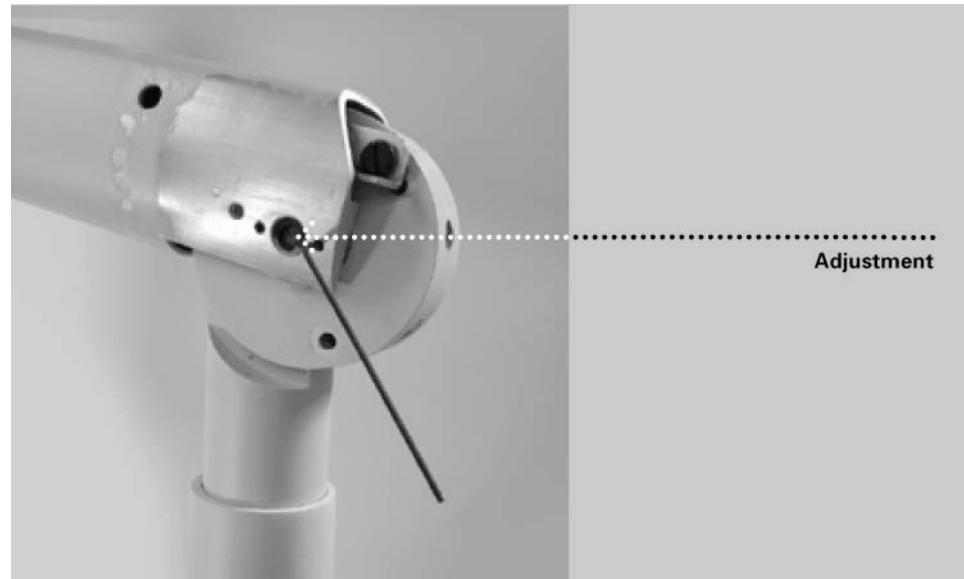

Figure 76
2. Using a 2 mm Allen wrench, as shown in Figure 76, tighten both screws evenly at each adjustment point until the movement of the Articulating Arm is as desired. Do not loosen adjustment points so far as to allow the Articulating Arm to drift.